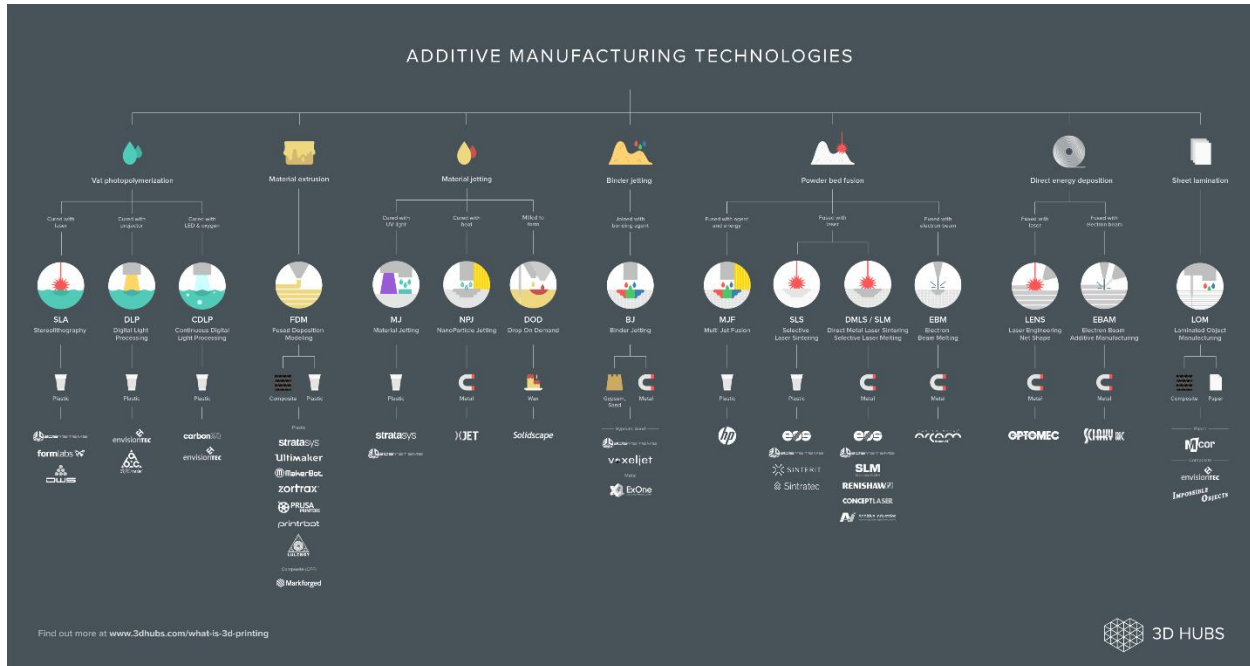

Figure 1: Graphic from 3D HUBS explaining the 7 distinct technologies of AM.
The terms Additive Manufacturing (AM) and 3D Printing are often used interchangeably. The standard ASTM 52900 defines AM as “the process of joining materials to make parts from 3D model data, usually layer upon layer, as opposed to subtractive manufacturing and formative manufacturing methodologies.” The standard splits AM into 7 distinct technologies which are summarised really well in the graphic from 3D HUBS in Figure 1 below.